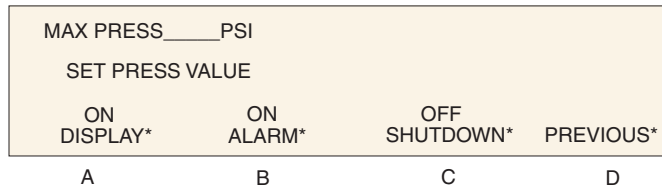

Figure 3-10 Limits setpoint (Max Press) menu
1. Press LIMITS. To display the Limits menu, enter the number of the limit you wish to program. One of five limit setpoint menus will appear: MAX PRESS, MIN PRESS, MAX FLOW, MIN FLOW, or FLOW LIMIT. The MAX PRESS limit setpoint menu is shown in Figure 3-10.